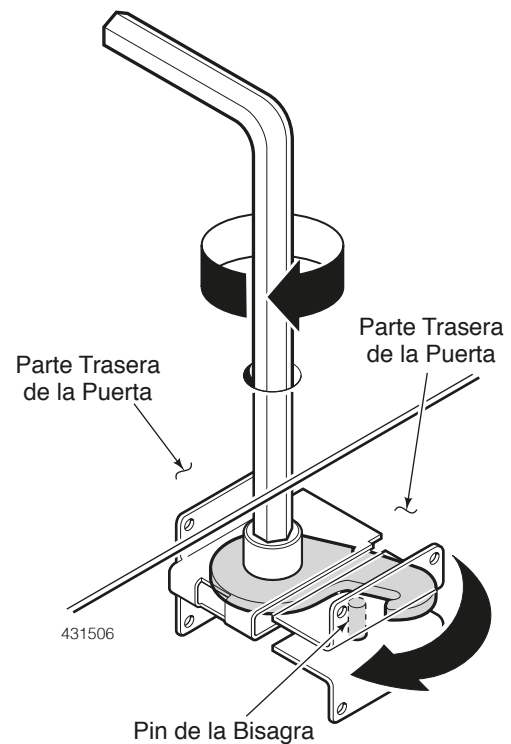

Figure 5
2. Apply silicone caulk to both long edges, then slide the door sections together. Cam lock the sections with a 3/8" hex wrench (supplied). Turn clockwise until the lock is engaged with the Hinging pin. See *Figure 5*.